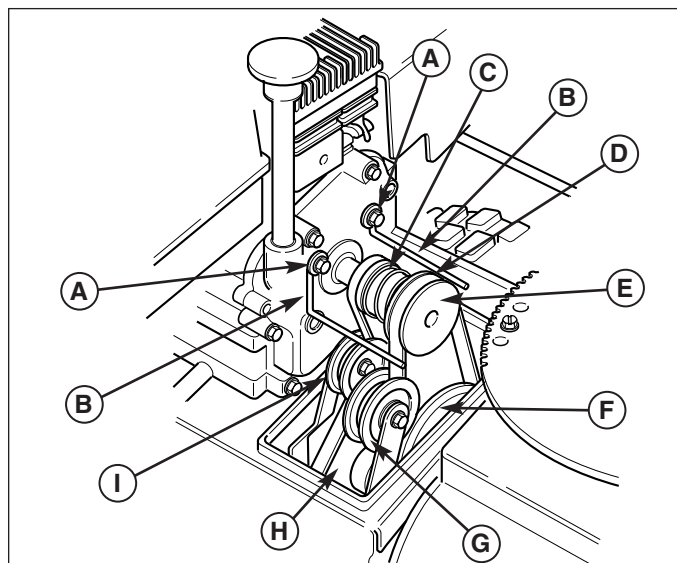

Figure 29. Belts and Pulleys
3. Move the belt guides (B, Figure 29) by loosening the two capscrews (A).
- a. Slip the auger drive belt (D, Figure 29) from the idler pulley by pushing it away from the pulley and then toward the rear.
- a. Pull the idler pulley (I, Figure 29) away from the belt and slip the belt from the pulley.
- b. Slip the belt off the traction pulley and then the engine pulley. The arm for the front idler pulley (G, Figure 29) may have to be pivoted to provide clearance for removing the belt from the traction pulley.
- c. Pull the belt out between the auger pulley (F, Figure 29) and traction pulley.